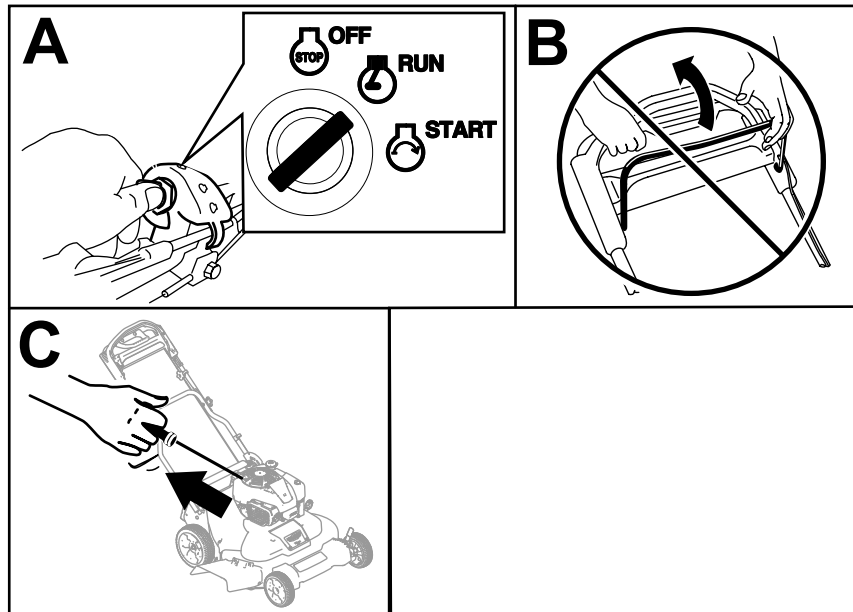

Figure 16
1. Turn the ignition key to the RUN position (A of Figure 16).
Important: Do not attempt to start the engine with the blade-control bar engaged; otherwise, you may blow the fuse (B of Figure 16).
2. Pull the recoil handle slowly to the rear until you feel resistance, then pull sharply (C of Figure 16). Allow the rope to return to the engine slowly.